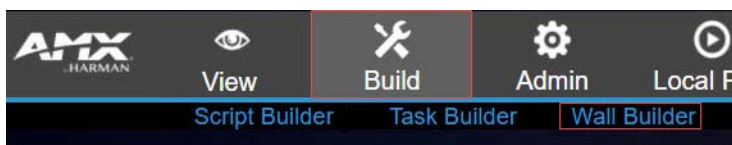

FIG. 50 Launching Wall Builder
2. Select **Build > Wall Builder** (as shown in Figure 50).